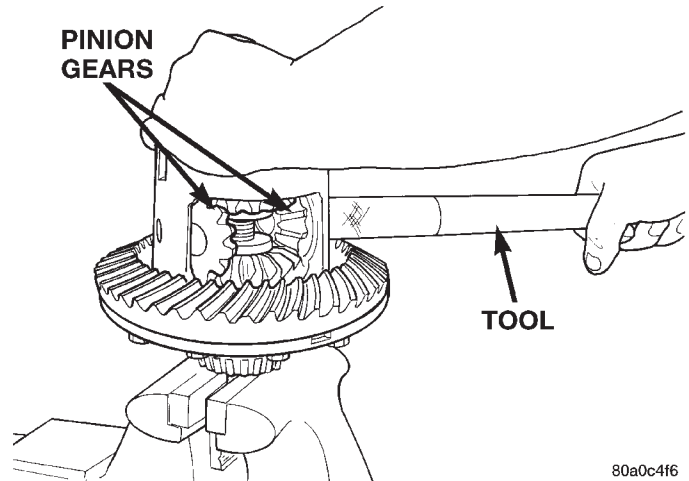

Fig. 46 Pinion Gear Removal
(11) Insert Turning Bar 6960-2 in case (Fig. 46).
(12) Loosen the Forcing Screw 6960-4 in small increments until the clutch pack tension is relieved and the differential case can be turned using Turning Bar 6960-2.
(13) Rotate differential case until the pinion gears can be removed.
(14) Remove pinion gears from differential case.
(15) Remove Forcing Screw 6960-4, Step Plate 8140-2, and Threaded Adapter 8140-1.